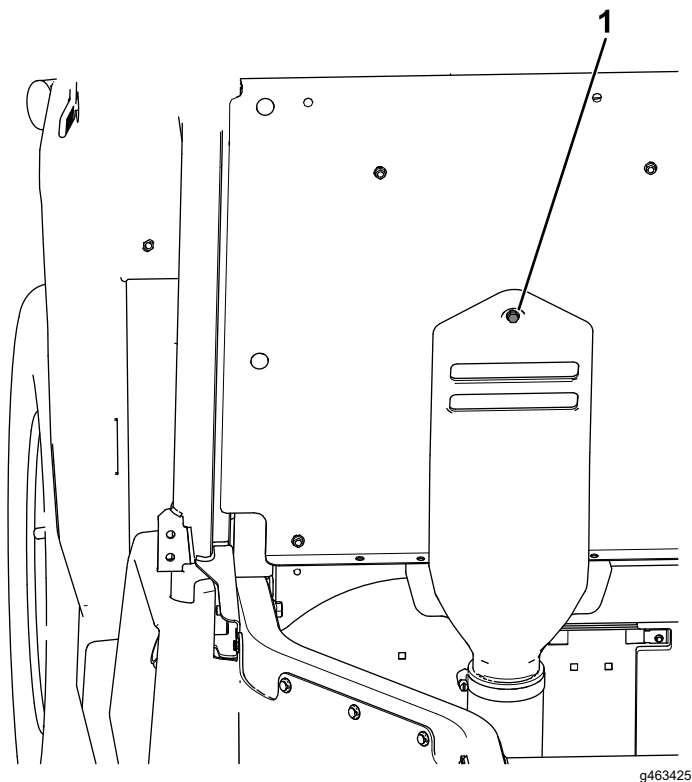

Figure 24
- B. Insert the captive bolt attached to the CVT-intake hood into the hole shown in the seat panel (Figure 24).